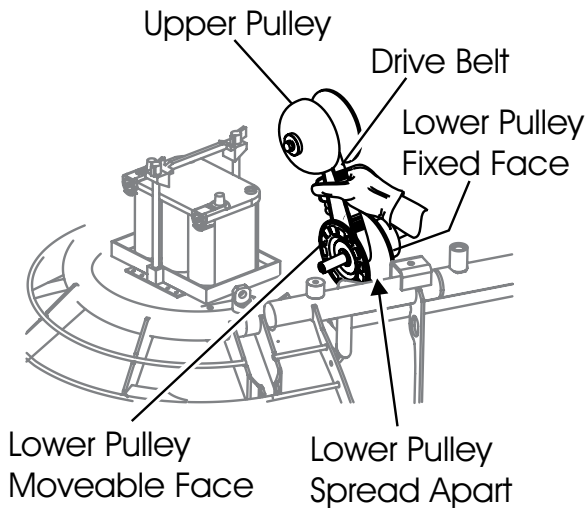

Figure 18. Expanding Lower Drive Pulley
2. Squeeze the drive belt as shown in Figure 18, and pull the V-belt upwards. This will spread open the faces of the lower drive pulley.